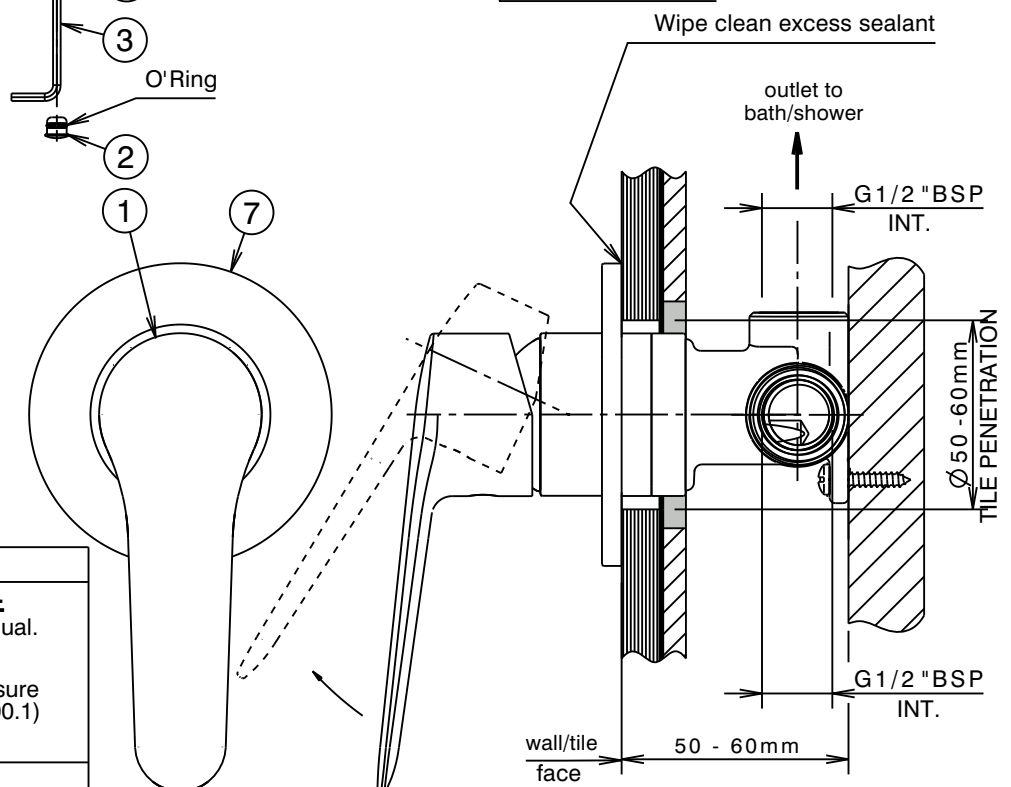

Fig. 1
Installation (Fig. 1 & 2)
- * Mixer body (12) must be installed square to wall/tile face, to ensure cover plate (7) sits flush. Sealant/waterproofing materials must remain clear of the protective sleeve and the surface it protects to allow for removal of the sleeve and installation of the trim components.
- 2) Remove protective cap from mixer body (12). Ensure the external surface of the mixer body (12) is clean, apply lubricant on the 'O'-ring, then slide sleeve (9) (with WaterMark marking underneath) over mixer body (12) up to the shoulder as shown. Screw cap (8) onto the thread of nut (10) and hand tighten to secure the sleeve (9).
- 3) Apply a suitable clear sealant to the back edge of the cover plate (7), leaving an unsealed section at the bottom for drainage. Carefully slide the cover plate (7) (fitted with 'O'-ring) over the mixer body sleeve (9) with the 'CAROMA' logo aligned at the bottom. Push the cover plate (7) firmly against the wall/tile face. Wipe/clean excess sealant from the trim surfaces & the wall/tile face (See Fig. 1).
- 4) Fit adaptor (6) to cartridge stem and secure with screw (5). Fit handle (1) taking care that it is pushed fully onto adaptor (6), then tighten grub screw (4) using the 2.5mm allen key (3). Fit plug (2) together with O'Ring, taking care not to damage the decorative finish.